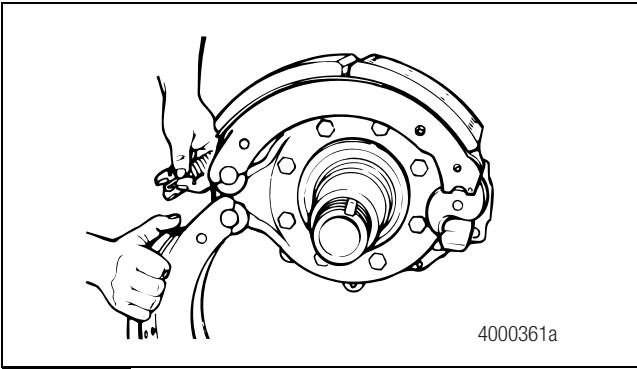
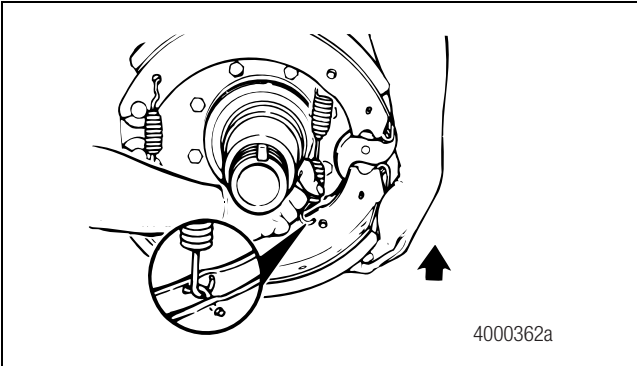
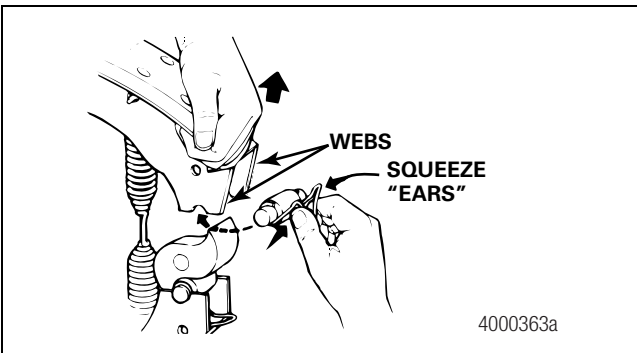

Figure 42
Figure 43
Figure 44
9. Install the brake shoes onto the anchor pins. Make sure to install them into the same positions from which they were removed. Attach the retainer springs. Figure 42 and Figure 43. Use a pry bar to install the roller pins. Figure 44.